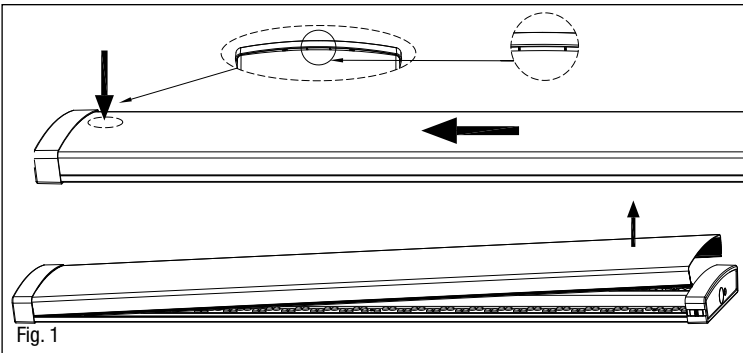

Fig. 1
1. To remove the lens from the luminaire, start at the end of the lens opposite from the CCT switch and push down on the lens in the center. Once the steps are exposed, gently slide the lens away from CCT switch end. There is a tab that the lens must slide underneath to allow it to be removed. When the opposite end of the lens is clear of the end cap the lens can be removed. (Fig. 1)